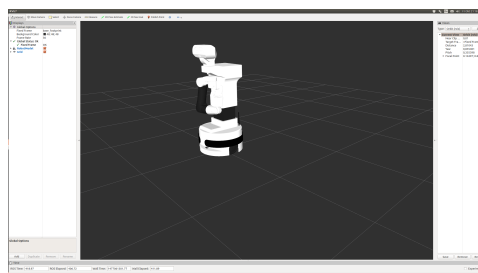

Figure 5.2: TIAGo robot displayed in `rviz`.
4.- At the bottom of the same panel click on the *Add* button. Then, from the opened window select *RobotModel* to visualize the robot. You can also add a *Grid* element to visualize the floor (see Fig. 5.2).